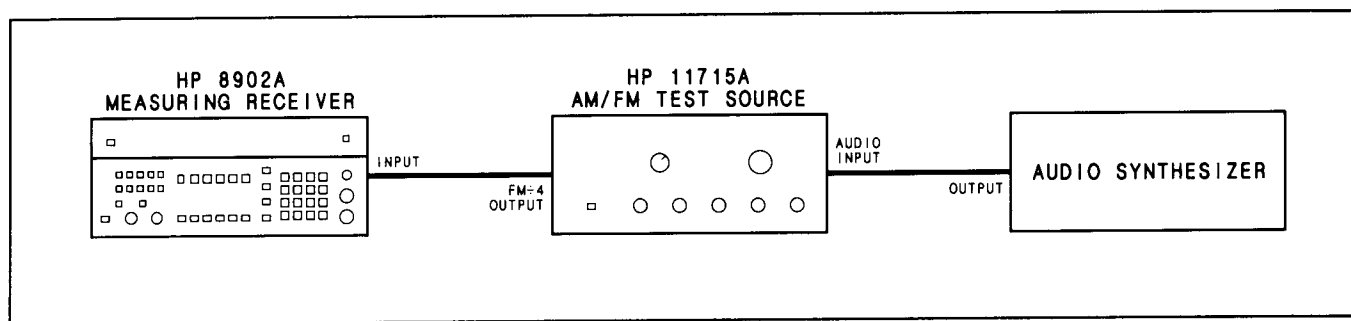

Figure 4-4. Audio Filters Performance Test Setup
1. Connect the equipment as shown in Figure 4-4.